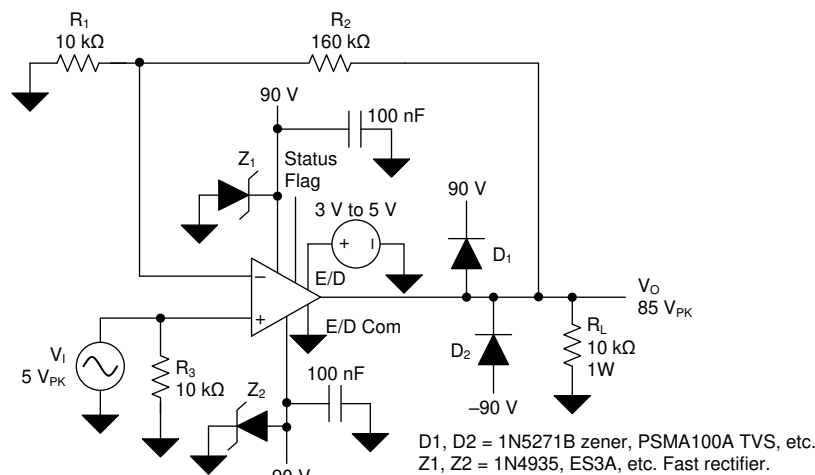

图 61. OPA462, High-Voltage Noninverting Amplifier, $A_V = 17$ V/V
The OPA462 high-voltage op amp can be used in commonly applied op amp circuits, but with the added capability of allowing for the use of much higher supply voltages. A very common application of an op amp is that of a noninverting amplifier with a gain of 1 V/V or higher. 图 61 shows the OPA462 in a noninverting configuration.
Figure 61 shows a noninverting circuit with a moderately high closed-loop gain (A_V) of 17 V/V (24.6 dB). In this example, a 5- V_{PK} ac signal is amplified to 85 V_{PK} across a 10-k Ω load resistor connected to the output. The peak current for this application is 8.5 mA, and is well within the OPA462 output current capability. Higher output current, typically up to 30 mA, may be attained at the expense of the output swing to the supply rails. A ± 90 - V_{DC} power supply is required for this configuration.
A potentially destructive mechanism is the back EMF transient that can be generated when driving an inductive load. D_1 , D_2 , Z_1 and Z_2 in Figure 61 have been added to the basic OPA462 amplifier circuit to provide protection in the event of back EMF. If the voltage at the OPA462 output attempts to momentarily rise above $V+$, D_1 becomes forward-biased and clamps the voltage between the output and $V+$ pins. This clamp must be sufficient to protect the OPA462 output transistor. If the event causes the $V+$ voltage to increase the power supply bypass capacitor, Z_1 , or both, a Zener diode or a transient voltage suppressor (TVS) can provide a path for the transient current to ground. D_2 and Z_2 provide the same protection in the negative supply circuit.
The OPA462 noninverting amplifier circuit with a closed-loop gain of 17 V/V has a small-signal, –3-dB bandwidth of nearly 800 kHz. However, the large-signal bandwidth is likely of greater importance in a high-output-voltage application. For that mode of operation, the slew rate of the op amp and the peak output swing voltage must be considered in order to determine the maximum large-signal bandwidth. The slew rate (SR) of the OPA462 is typically 6.5 V/ μ s, or 6.5×10^6 V/s. Using the 85- V_{PK} output voltage available from the circuit in Figure 61, the maximum large-signal bandwidth is calculated from the slew rate formula. Equation 1, Equation 2 and Equation 3 show the calculation process.